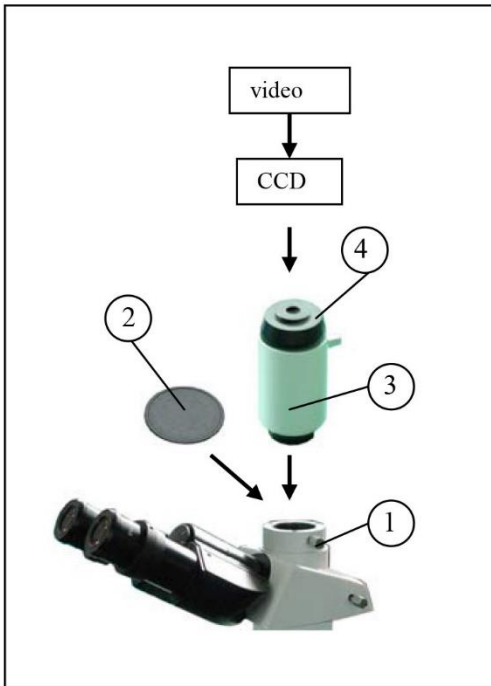

Figure 31
5.1.2. Installing the video set (Figure 31)
5.1.3. Focus (Figure 31)